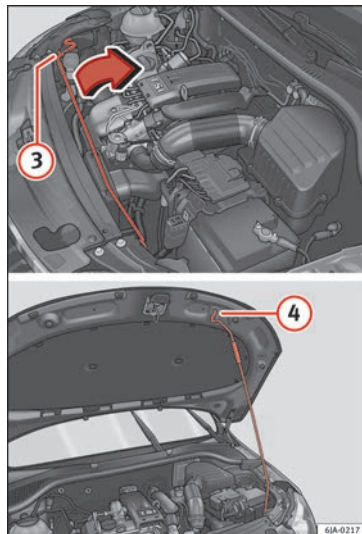

Fig. 109 Locking the bonnet.
- Remove the support strut (3) » Fig. 109 from its fastening in the direction of the ar-